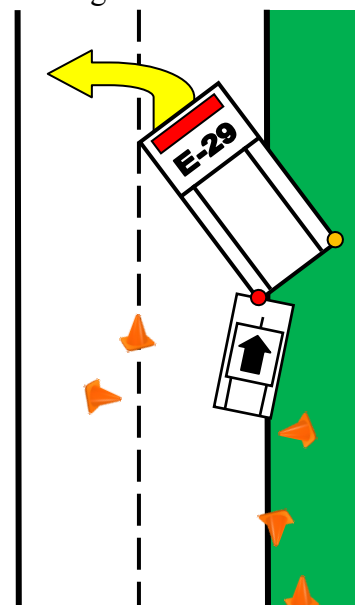

Figure 6.2
- J. All blocking apparatus should park utilizing the Critical Wheel Angle strategy, to reduce the risk of a unit being “pushed” into the work zone, after being struck. See Figure 6.2.